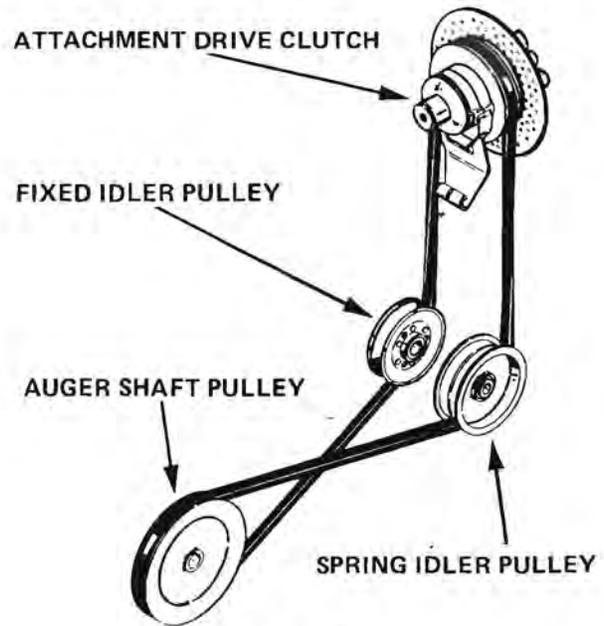

FIGURE 7
12. See Figure 7. Place the belt under the "fixed" idler pulley and around the "auger shaft" pulley. Push down on the "spring idler" pulley lever and locate the belt on the underside. Check the belt to make certain it is correctly installed with the "vee" side in the vee groove pulleys and the "flat" side in the flat groove idler pulley.